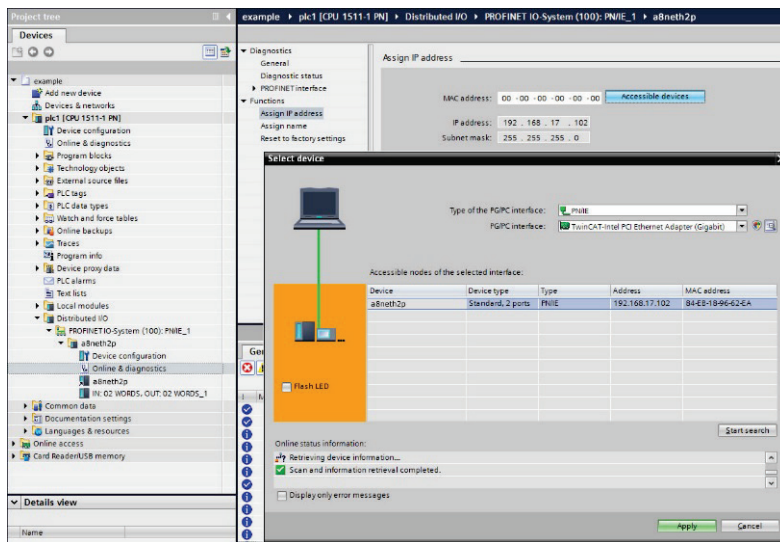

Figure 89: Discover PROFINET Devices on the Network
In the **Project tree**, expand **plc1...Distributed I/O...PROFINET IO-System (100):PN/IE_1**. Expand the device and double-click **Online & diagnostics**. In the next panel, expand **Functions** and select the **Assign IP address** node. Click the **Accessible devices** button. Select the appropriate **PG/PC interface** and click the **Start search** button to discover and display the PROFINET devices on the network as shown in Figure 89. Select the device and click the **Apply** button.